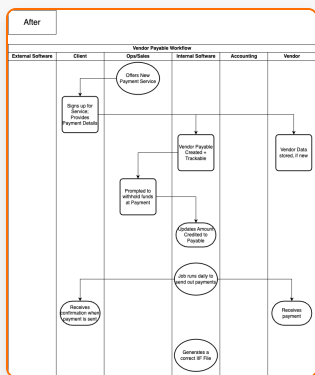

Fig. 7: Automated Workflow (After)
- **Phase 3:** Introduced fully automated payment releases, streamlining the entire workflow (see **Fig. 7** for the automated process).